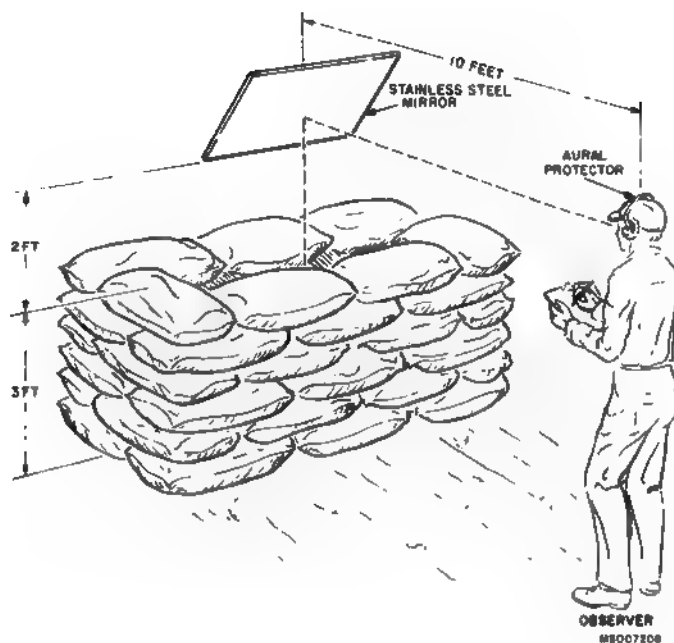

Figure 172.2. Sand bag barricade.
**Warning:** The air leak portion of the final test must be performed with the UUT placed in a sand bag barricade as shown in figure 172.2 for observer protection during performance of the air leak test.
- (e) Erect the sandbag barricade to a height of about 3 feet around the container. The sand bags should be stagger stacked (fig. 172.2) for strength and stability of the barricade.